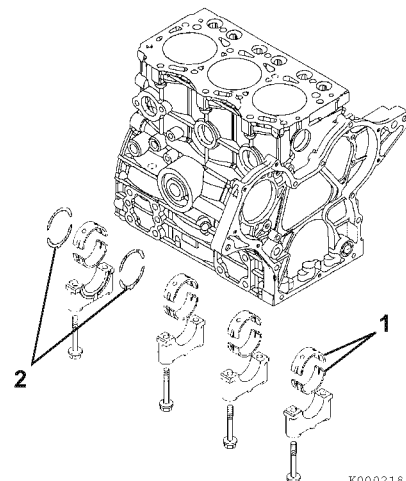

Figure 6-92
2. Install new bearing inserts (**Figure 6-92, (1)**) and thrust bearing (**Figure 6-92, (2)**) in the cylinder block and main bearing caps. Be sure the oil holes in the upper bearing shells align with the oil ports in the cylinder block. Apply a liberal coat of clean engine oil to the bearings and crankshaft journals.